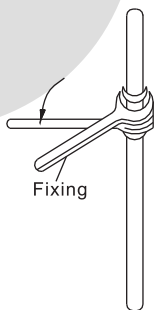

Fig 8
- When connecting flared connectors, the two pipes must be aligned with the same center. Then put on the nut and revolve it in and then tighten it with two spanners, see Fig 8.